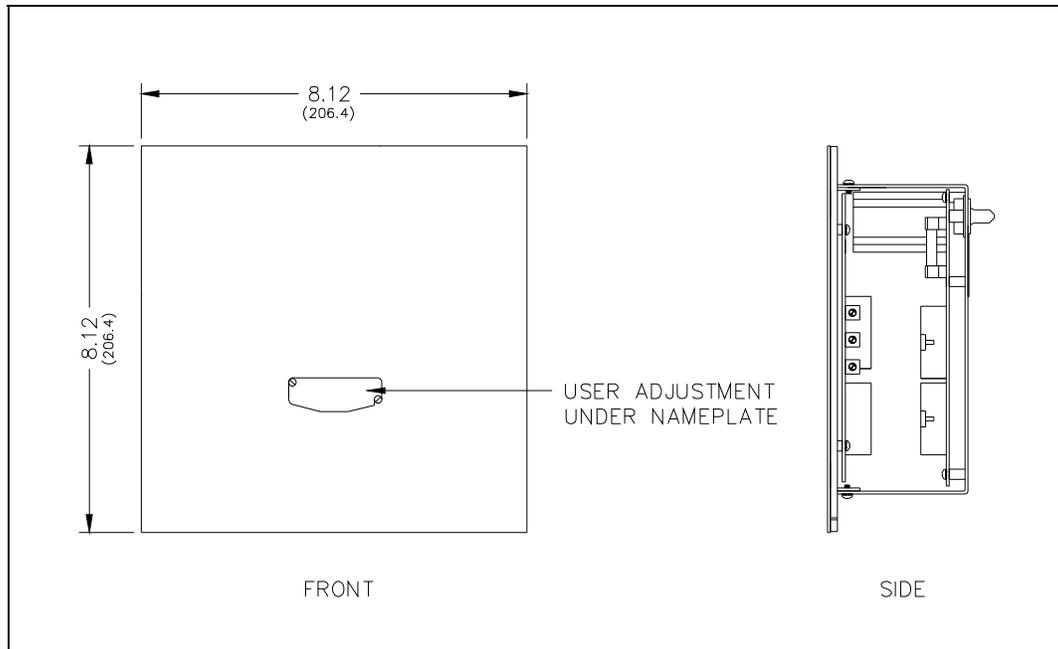

Figure 1. Remote Subset Amplifier - Front Outline and Side View
**User Level Adjustment:** This assembly contains a User Level Adjustment that is accessible beneath the nameplate on the front panel. See Figure 1. The User Level Adjustment controls the Minimum Speaker Output Level, the Speaker Offset Level (dB above ambient), and the Volume Level Control (VLC). Refer to the Maintenance section for the adjustment procedures.
The User Adjustment Control is located beneath the GAI-Tronics nameplate on the front panel. Refer to Figure 1. It is used to make all user adjustments normally required for installation. Loosen the two screws on the GAI-Tronics nameplate and rotate it counterclockwise to access the adjustment hole. Make adjustments by inserting a 1/8-inch flat blade screwdriver through the access hole and into the potentiometer located directly behind the hole.